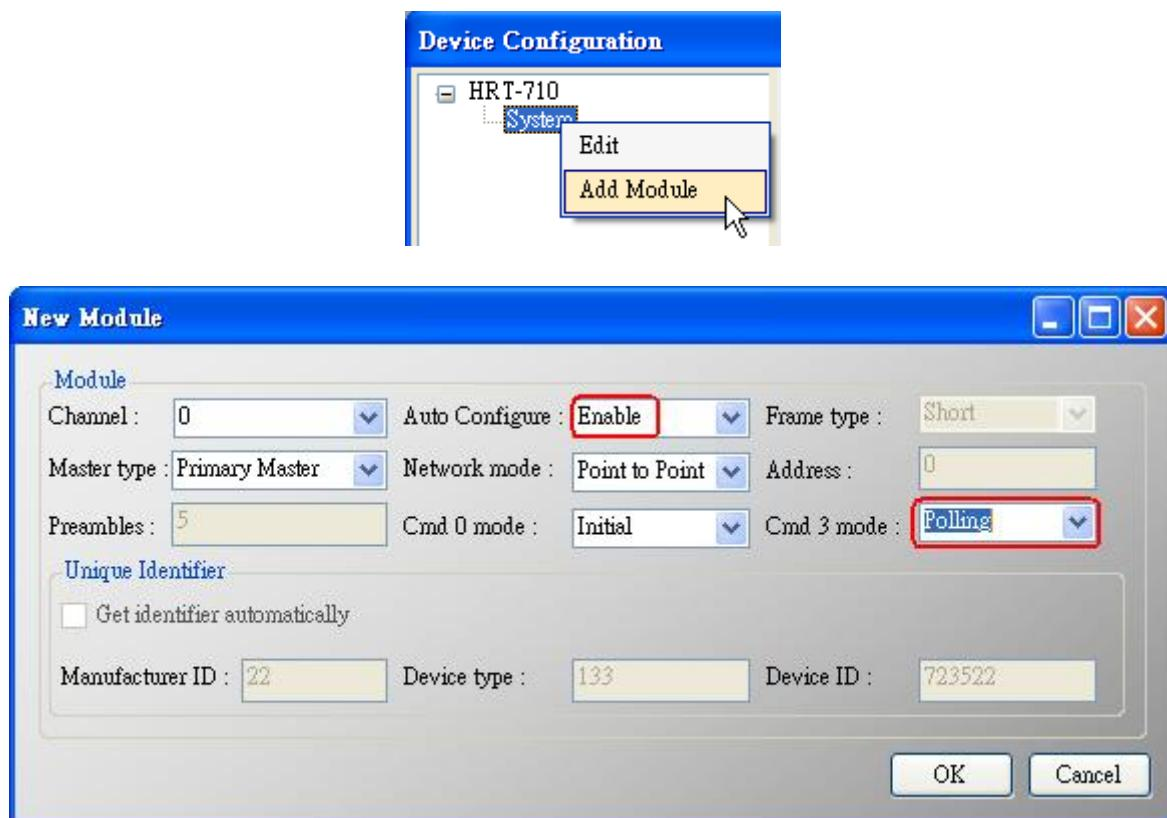

Figure 1-3 Add new HART device setting (Auto Config : Enable)
(1) Method 1 => Choose “Auto Configure” option to be Enable like Figure 1-3.